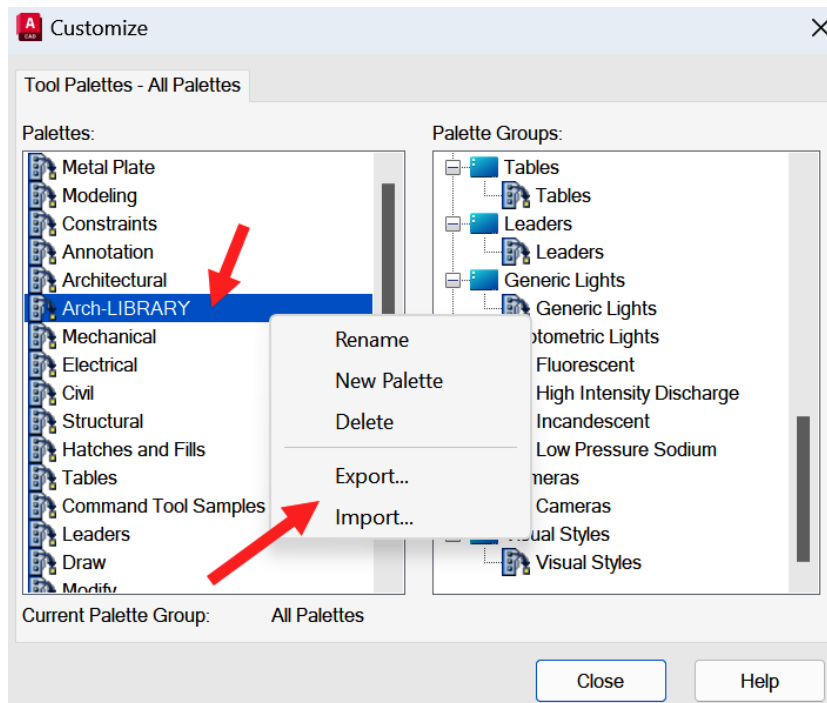

Figure 9.33: The Customize dialog box with the Arch-LIBRARY palette selected
13. To import and export tool palettes, you must click on the **Tool Palettes** title bar again. Select **Customize Palettes...** from the menu, and the **Customize** dialog box will appear, as shown in Figure 9.33.
14. Select the **Arch-LIBRARY** palette from the list on the left and right-click on it. The shortcut menu shown in *Figure 9.33* appears, and you can import and export your tool palettes as **XTP** files. Export an XTP file to a team member, and they can then import the XTP file into their own tool palettes and use the same blocks from the same location.